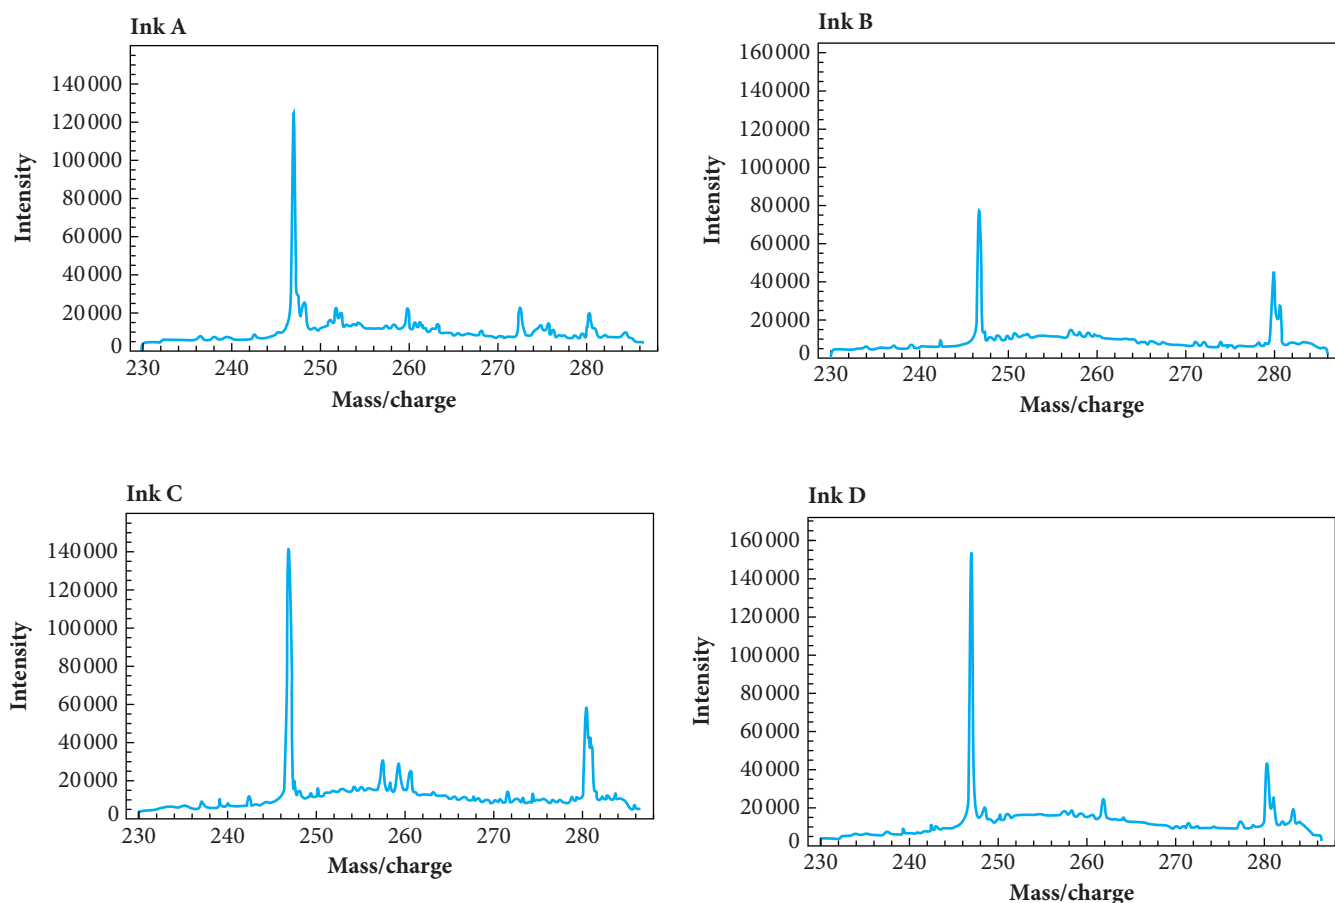

Figure 1.14 ▲
Scientists in the USA have developed a system that allows immediate analysis of the whole document by mass spectrometry. This is called the DART (direct analysis in real time) system. The DART method removes a microscopic amount of ink from the document, leaving the rest of the document intact. Visually, you would never know that anything was missing. The minute sample of ink is analysed, and a spectrum is produced, which is compared against a very large library of ink samples. Examples of the spectra produced by different inks are shown in Figure 1.14. This method is often used to show when two different pens have been used on a single document to alter a receipt or forge someone's signature.
- Figure 1.14
Read the following information carefully. Use Figure 1.14 to help you answer the questions below.